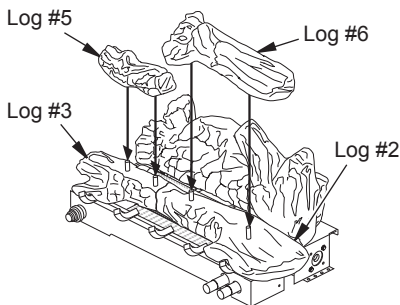

Figure 27 - Installing Logs #5 and #6
5. Align holes in bottom of left top log (#5) with pins on top of left bottom log (#3). Place log on pins (see Figure 27, page 19).
6. Align holes in bottom of right top log (#6) with pins on top of right bottom log (#2). Place log on pins (see Figure 27, page 19).